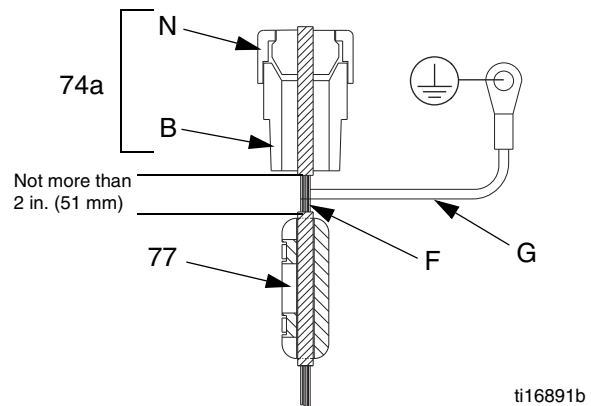

FIG. 6. IS Circuit Field Wire
The IS field wire is grounded through the grounding screw in the junction box. See FIG. 6.
Thread the IS field wire through the conductive strain relief (74a) and connect it to J2 and J3 on the circuit board. See FIG. 6 and the **System Wiring Schematics**, page 11.
See FIG. 6. Tighten the nut (N) on the conductive strain relief (74a) securely. Install the ferrite (77) on the field wire (F), not more than 2 in. (51 mm) from the bottom of the conductive strain relief (74a). Install ground wire (G) to grounding screw in junction box.